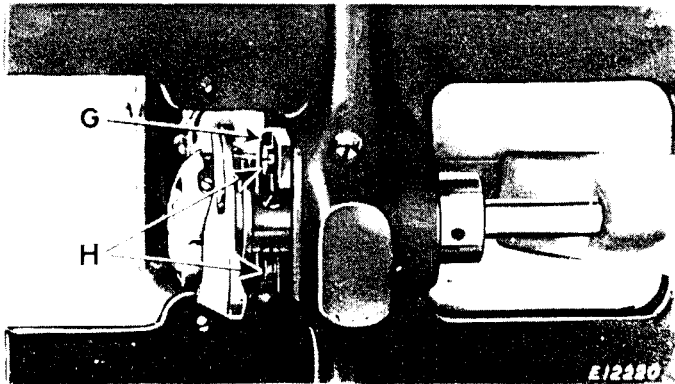

Fig. 21. Adjustment of Needle Plate Slide Plate
shaft (see bottom of page 18). Then loosen the two screws (H, Fig. 21) in the needle plate slide plate and raise or lower the slide plate (G), as required, until the surface of the needle plate moves flush with the surface of the throat plate. Tighten the two screws (H), replace the hook shaft and pulley and time the hook as instructed on page 18.